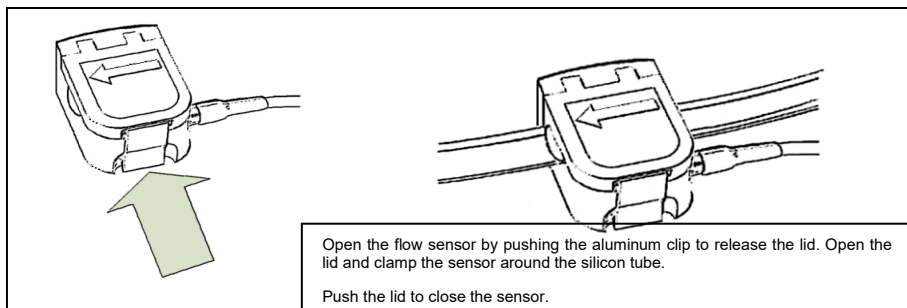

Figure 13 Connection of flow sensor to disposable system
- Connect the flow sensor (13), Figure 13.